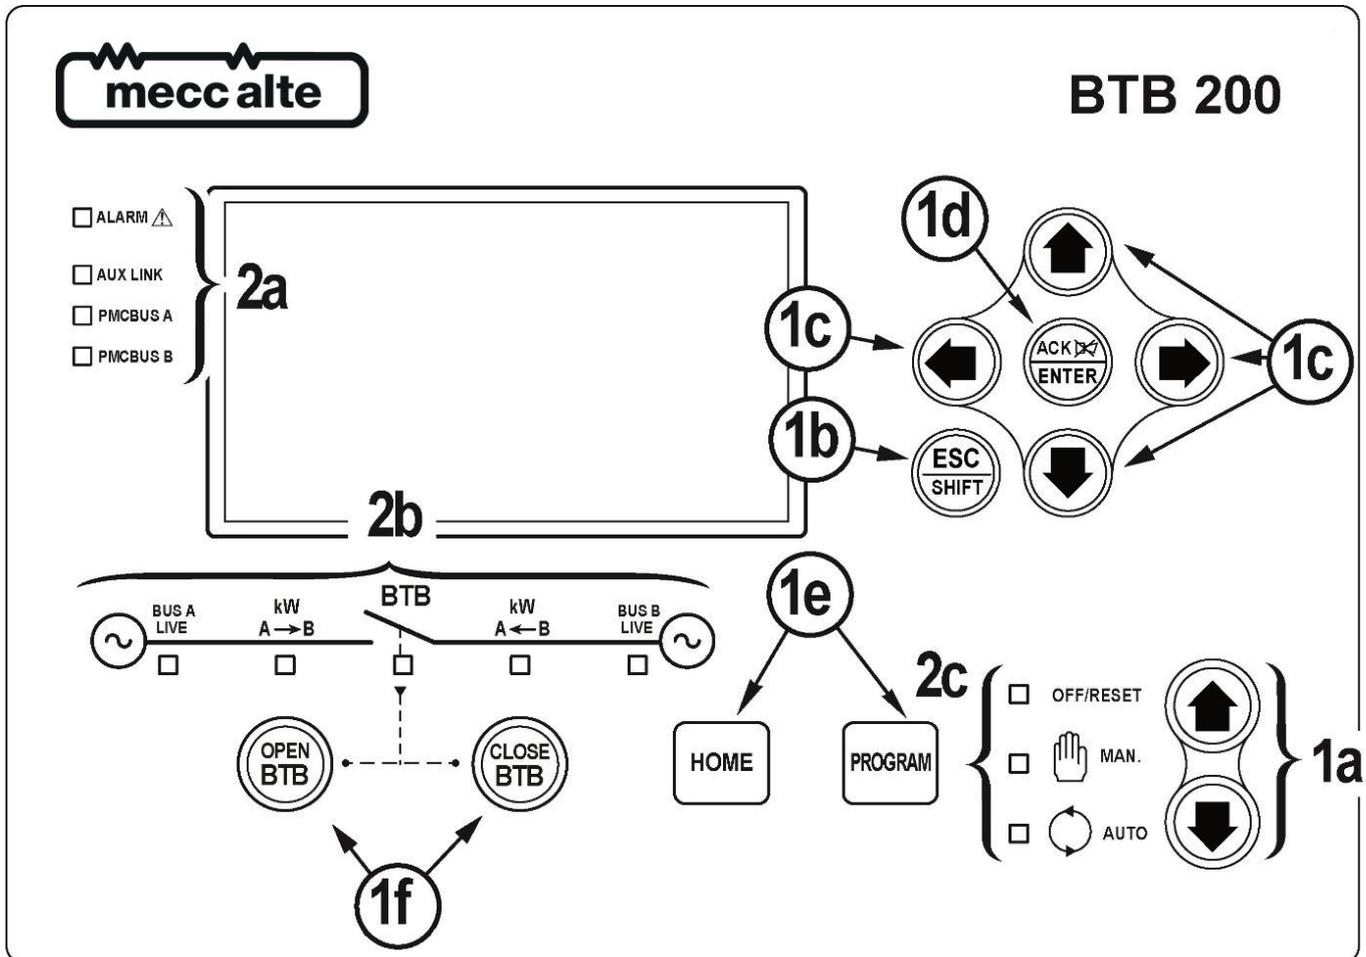

Fig.1 – Front Panel GC600, GC600Link
| 6.2 | Buttons (ref. to fig. 1) | 7 |
| 6.3 | Indicators (ref. to fig. 1 and 2) | 8 |
6.2 Buttons (ref. to fig. 1)
6.3 Indicators (ref. to fig. 1 and 2)